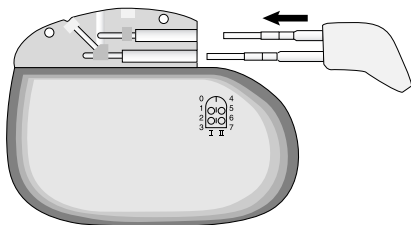

Figure 17. Insert connector plug into unused neurostimulator socket.
- Seal the unused neurostimulator socket (1 extension with 1 lead)—Insert the neurostimulator connector plug into the unused socket of the neurostimulator connector, and tighten the setscrews (Figure 17).